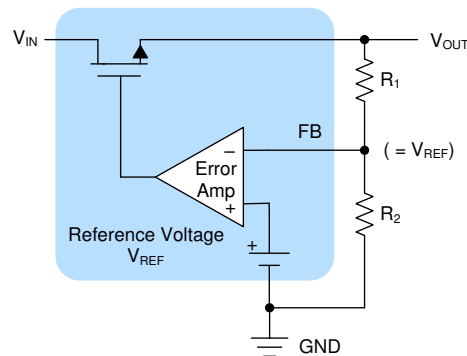

Figure 3. Basic LDO Structure
LDOs can operate at a low potential difference between input and output. Figure 3 shows a block diagram of the internal circuit of a linear regulator. It basically consists of an error amplifier (used for error detection), a reference voltage source, and an output transistor. Since the operation is the same as that of a non-inverting amplifier circuit, the voltage at the non-inverting terminal (FB) of the error amplifier becomes the same as the reference voltage (V_{REF}). The gain set by the ratio of the resistor divider (R_1 and R_2) determines the output voltage (V_{OUT}).